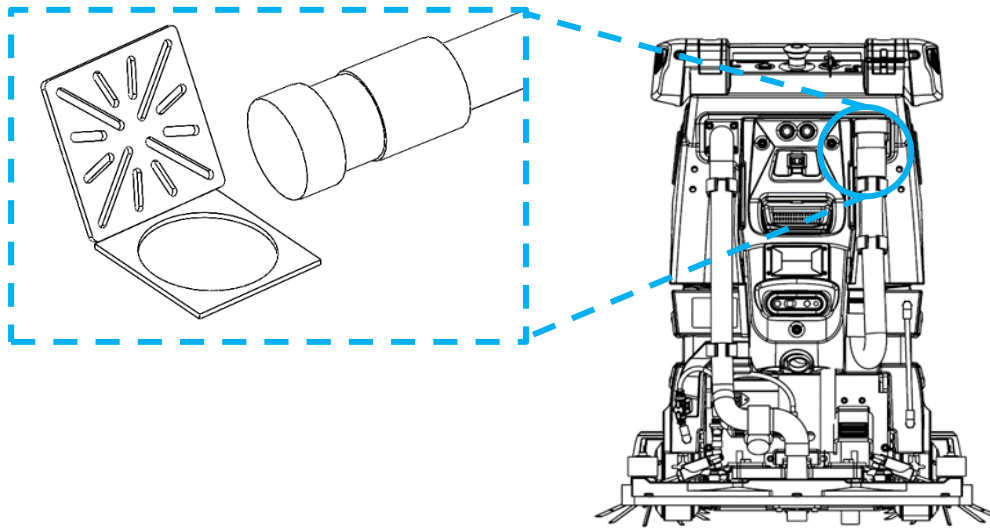

FIGURE 10-1
1. If waste water tank has fluid, use the manual drain hose to drain fluid (Fig 10-1).
2. Point hose towards a drain or appointed disposal location, uncap the hose (Fig. 10-1).